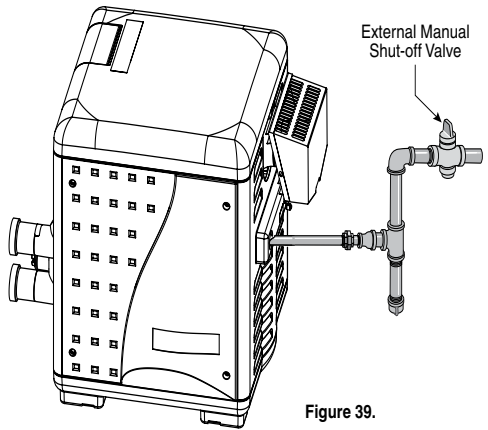

Figure 39.
5. Turn **off** the outside external manual shut-off gas valve, see Figure 39.
6. Wait five (5) minutes to clear out any gas. If you then smell gas, **STOP!** Follow "B" in the "Before Start-up" instructions (page 38). If you don't smell gas, go to the next step.
7. Turn **on** the outside external manual shut-off gas valve, see Figure 39.
3. Turn **off** the outside external manual shut-off gas valve, see Figure 39.